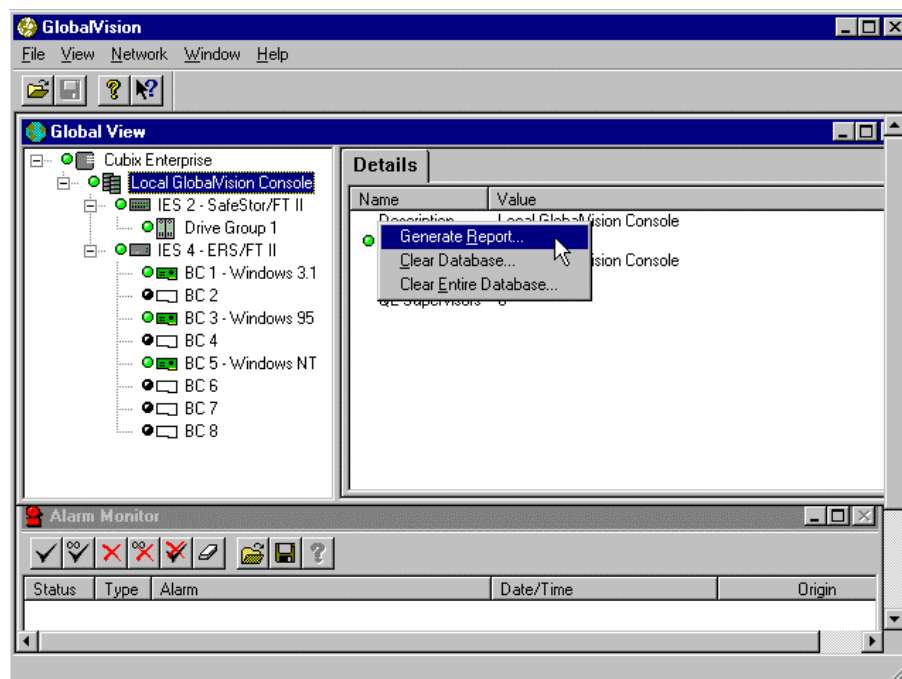

Figure 105 - Local GlobalVision Console controls, Usage menu items
3. Click on the **Usage** menu item. The menu items available are **Generate Report**, **Clear Database**, and **Clear Entire Database**. See Figure 105.